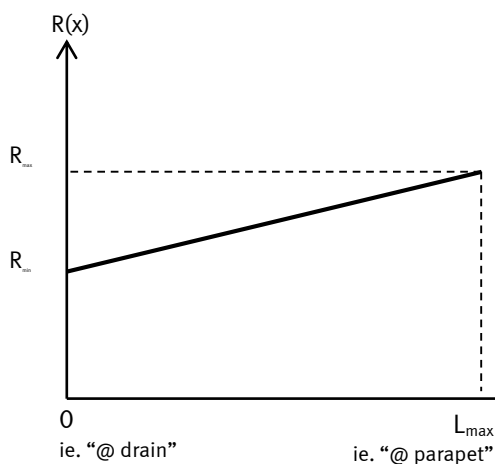
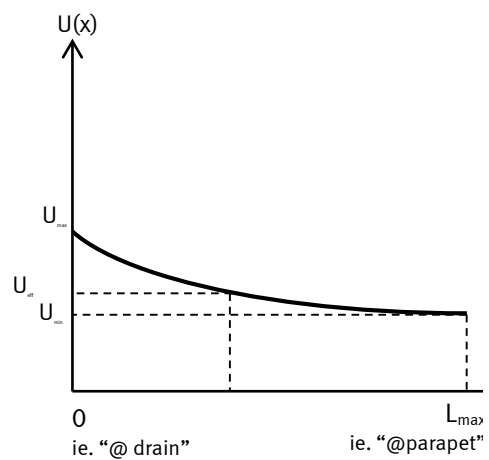

Figure 2 - Plot of R-value vs. horizontal distance in tapered insulation.
Figure 3 - Plot of U-value vs. horizontal distance in tapered insulation.
R-value and U-value are both a function of insulation thickness, and this thickness varies in tapered insulation systems. R-value varies linearly with insulation thickness and thus horizontal distance (Figure 2) in a tapered insulation plan. However, U-value varies as an inverse function of insulation thickness, and therefore it is non-linear (Figure 3). The heat flow (Q) through an assembly varies proportionally with the U-value. The function for heat flow (Q) is: